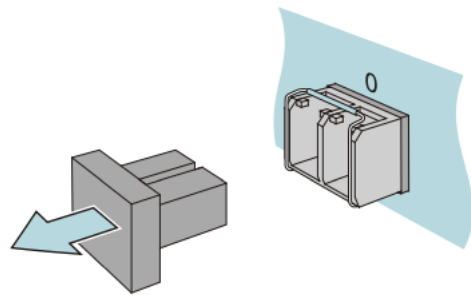
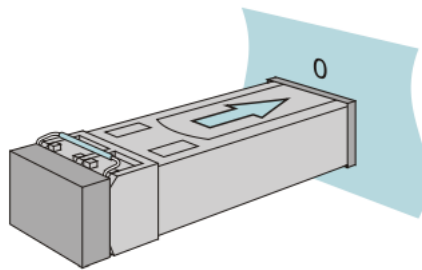

Figure 13: Remove the protective cap
Figure 14: Install the SFP transceiver
- Remove the protection cap from the SFP transceiver, refer to Figure 13 below. Push the SFP transceiver with the lock closed into the slot until it latches in, refer to Figure 14 below.